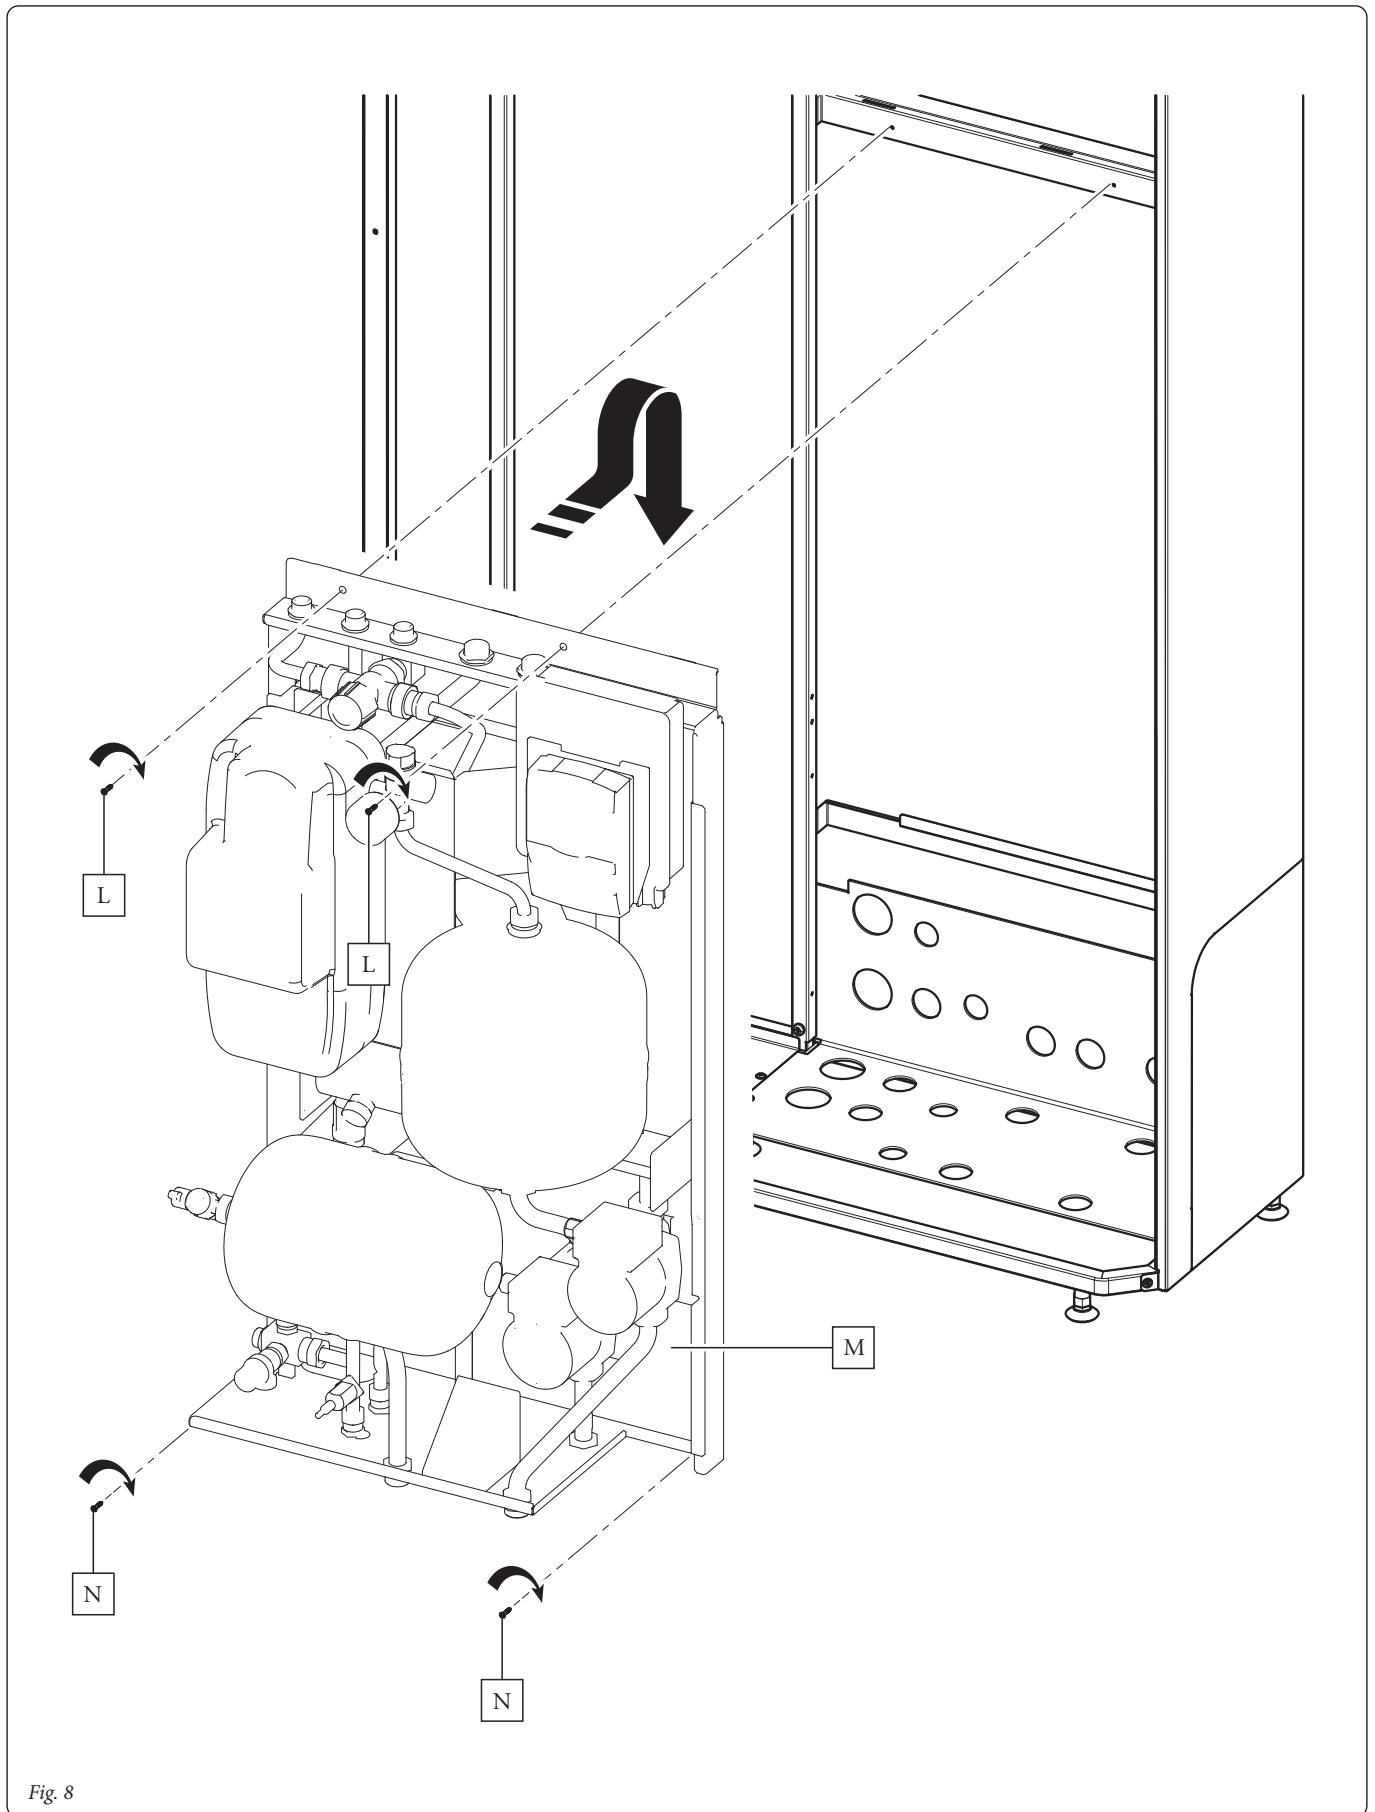

Fig. 8
- Hang the hydraulic unit according to its model (M) on the central bracket on the Domus Container (Fig. 8). Secure the position of the hydraulic unit by fastening the screws (L) on the central bracket.
N.B.: in the event that the installer thinks it is necessary, it is possible to secure the position of the hydraulic unit even further by using self-tapping screws (N), inserting them into the holes on the lower part of the hydraulic unit.